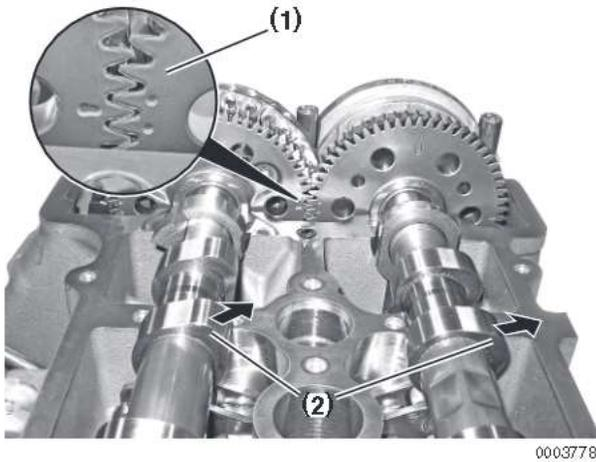

Figure 5-102
3. Install camshafts. Ensure the timing marks (**Figure 5-102, (1)**) on the gears align as shown.
When the timing marks are aligned, the lobes (**Figure 5-102, (2)**) for cylinder No. 1 will face the exhaust side of the engine.